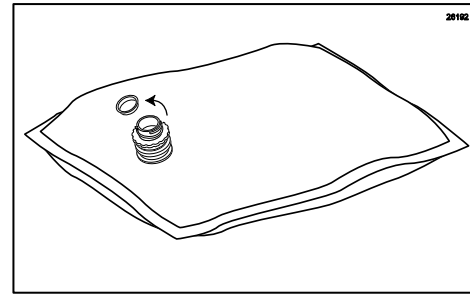

Figure 155
3. Select the syrup flavor you wish to use, then place the bag on the table with the fitment up and remove the dust cap. (See Figure 155.)